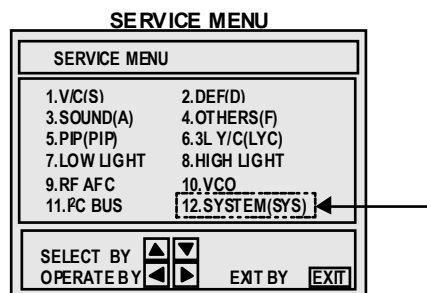

Fig.1
- 3) The **SERVICE MENU** screen will be displayed as shown Fig. 1.